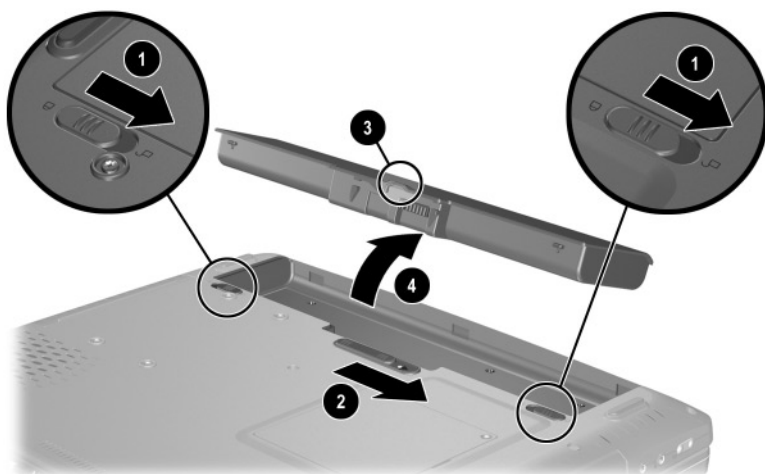

Figure 5-2. Removing the Battery Pack
- b. Slide the battery pack lock latches ❶ to the right (Figure 5-2).
- c. Slide and hold the battery pack release latch ❷ to the right.
- d. Use the notch ❸ in the battery pack to swing the front edge of the battery pack up and back ❹.